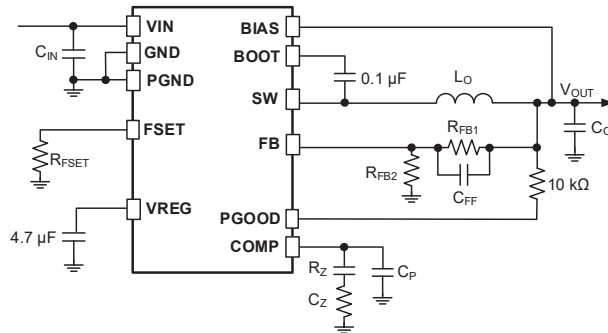

Figure 10: Applications Schematic Showing Component Locations
The ARG81800 is designed to minimize electromagnetic (EM) emissions when proper PCB layout techniques are adopted. A good PCB layout is also critical for the ARG81800 to provide clean and stable output voltages. Design guidelines for EMI/EMC-aware PCB layout are presented below. Figure 10 shows a typical application schematic of a synchronous buck regulator IC with critical power paths/loops.